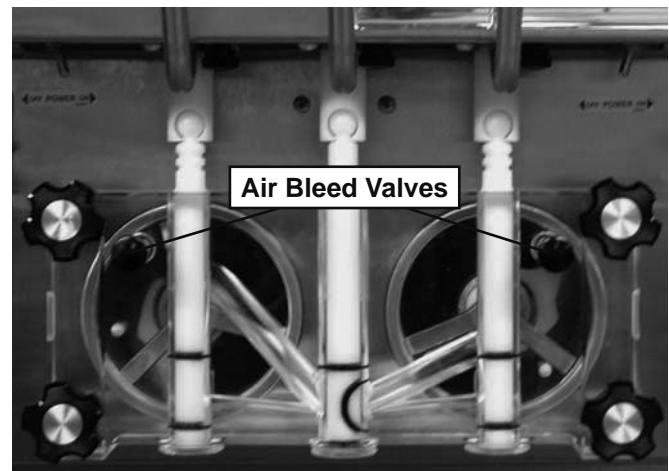

Figure 3-10. Air Bleed Valves
- B. Place the mix pump switch in the ON position and open air bleed valve on the front door by pushing valve in and holding (see Figure 3-10).